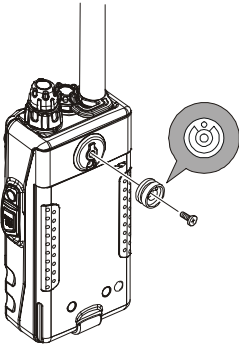

Figure 1
- ❑ Connect the hanger to the rear of the **VX-127**, with the notch pointing directly up, using the supplied screw (Figure 1). Use only the screw included with the clip to mount the clip to the back of the **VX-127**.